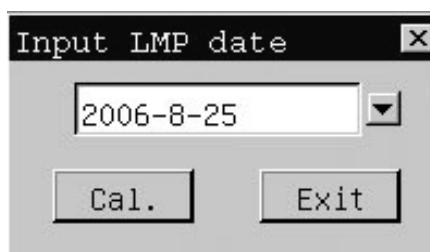

Fig.7-17 Dialog box for inputing LMP date
2. A dialog box-“Input LMP date” appears (see Fig. 7-17). Click  button to recall the calendar and select the LMP date from the dialog box-“Check Date”, move the cursor to [OK] button and press **【SET】** key to confirm the selected LMP date. Or input LMP date through the keyboard directly (**the date format should be YYYYMMDD**).